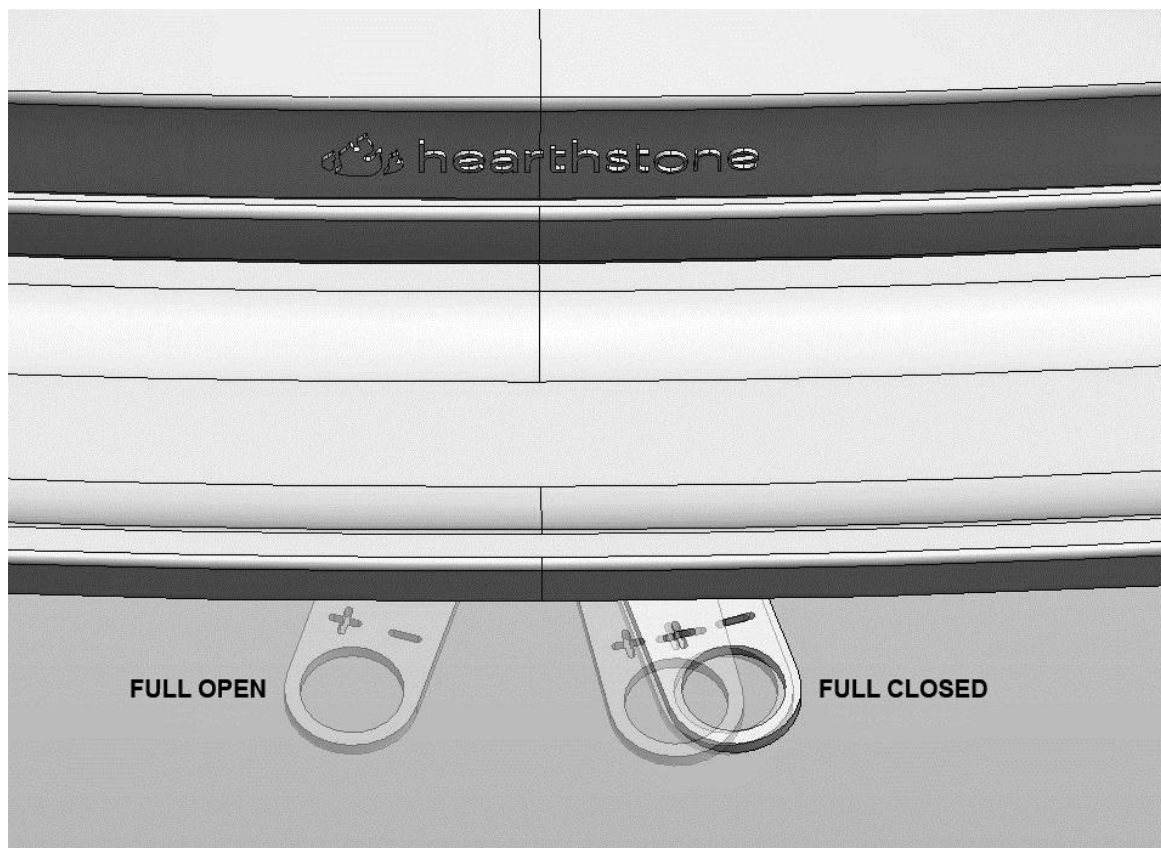

Figure 14 AIR CONTROL POSITIONS
**LOW BURN:** Move the air control lever all the way to the right. (see figure 14). This closes the air shutter to its minimum opening. A low burn rate over extended periods is not advisable as it can promote the accumulation of creosote. Inspect the venting system frequently if using low burn rates consistently.